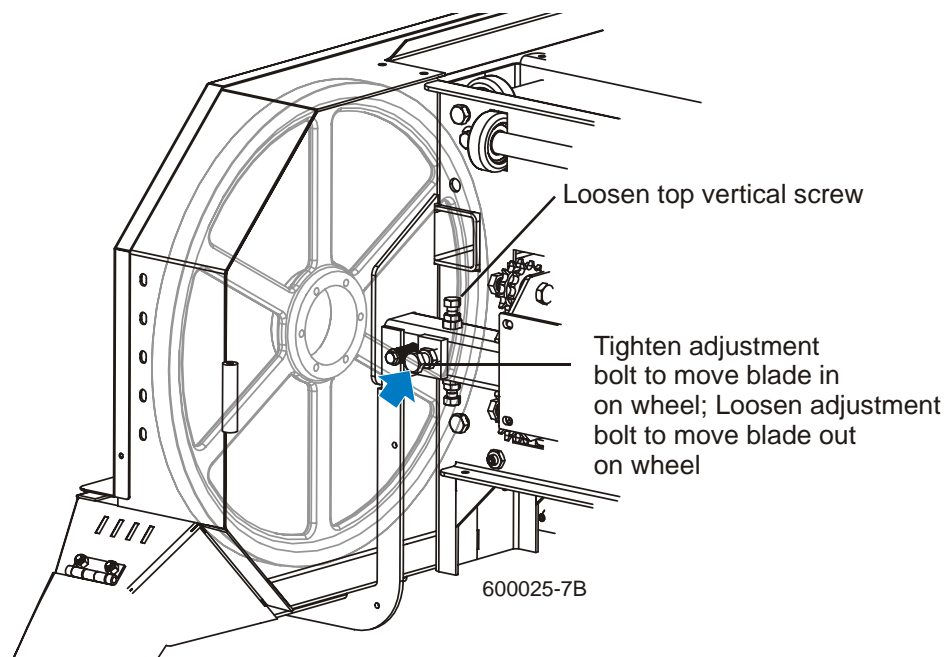

FIG. 7-22
**See Figure 7-22.** Use the horizontal adjustment screw to adjust the drive-side blade wheel. Loosen the top vertical screw to allow movement of the drive shaft. To move the blade back on the wheel, loosen the jam nut and turn the horizontal adjustment screw clockwise one quarter turn.